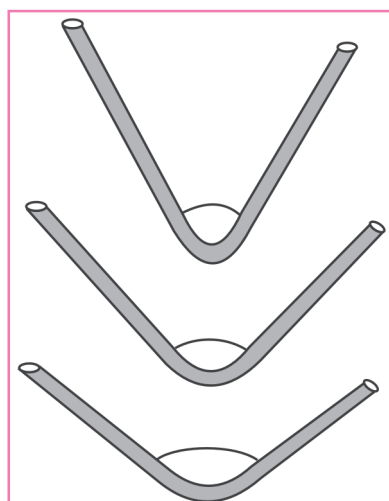

Fig. 2.9 BENT TUBES AT 60° , 90° AND 120°
7. Cool down the bent tube on asbestos sheet. The bent tubes at angle of 60° , 90° and 120° are shown in Fig. 2.9.